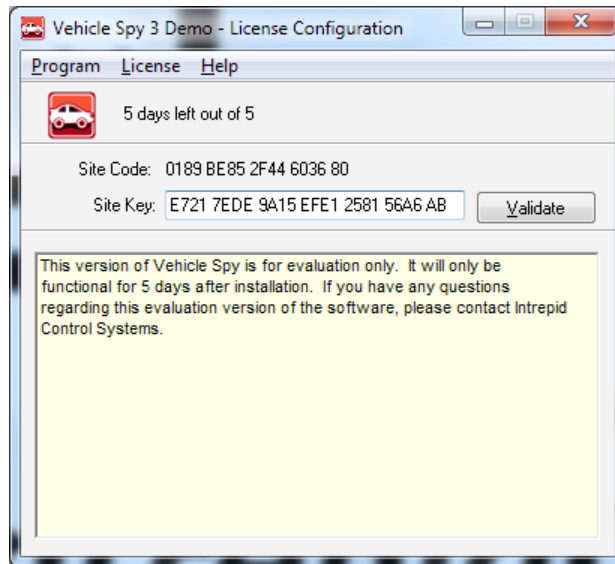

Figure 37: Vehicle Spy 3 License Configuration Screen with Site Key Entered.
3. **Enter Site Key:** Copy the site key from the email you receive and paste it into the text box on the configuration screen (Figure 37). Then Click .